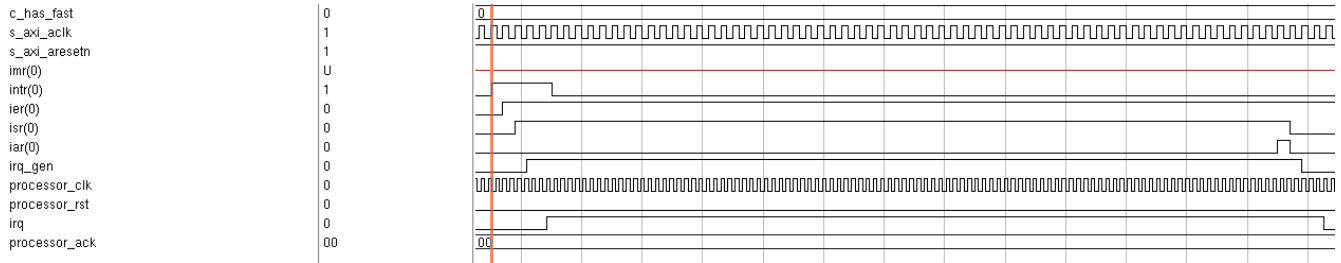

Figure 16: Input Intr - Level Sensitive (High), Output Irq - Level Sensitive (High), C_HAS_FAST = 0
- Configured Input Interrupt (Intr) for Level sensitive (active High), Output Interrupt Request (Irq) to Level sensitive (active High), disabled fast interrupt logic (C_HAS_FAST = 0). Timing diagram is shown in Figure 16.